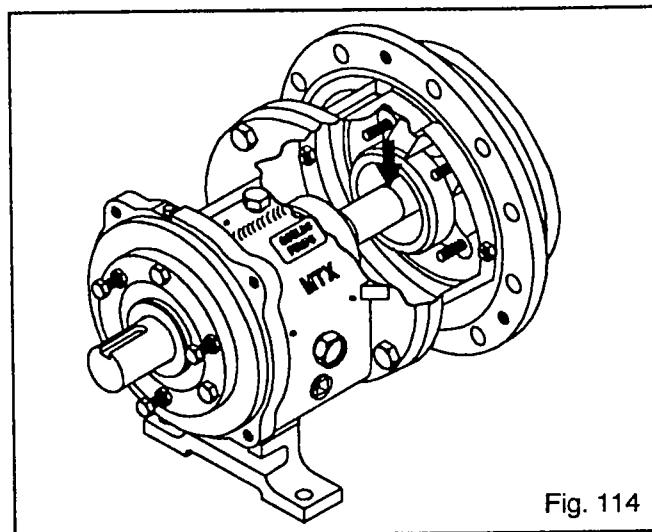

Fig. 114
8. Blue the shaft sleeve (126) or shaft (122) if no sleeve is used. Scribe a mark at gland gasket face of seal chamber/stuffing box cover (184). This will be the datum for installation of mechanical seal (Fig. 114).